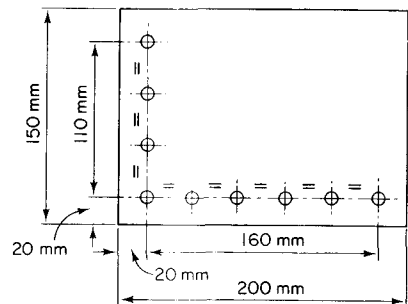

Fig. 3.27
19. Draw the plate detail shown in Fig. 3.27.